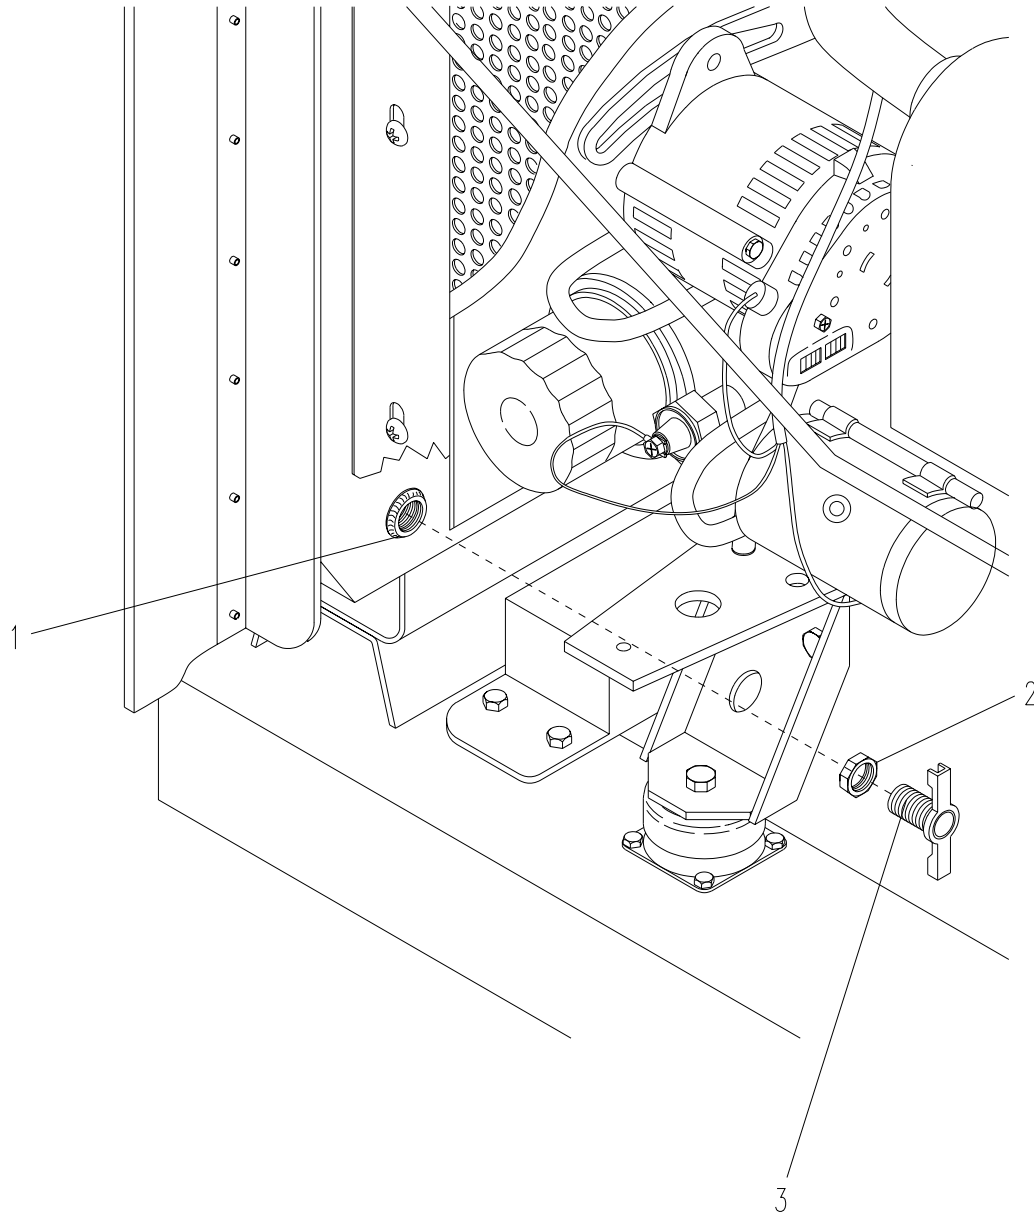

Figure 4-7. Radiator Coolant Drain Valve
- a. Remove coolant drain valve (3, Figure 4-7) and lock nut (2) by turning ccw.
- b. Clean all old sealing compound from threads in drain hole (1).
- c. Apply sealing compound to threads on coolant drain valve (3).
- d. Install lock nut (2) and drain valve (3).